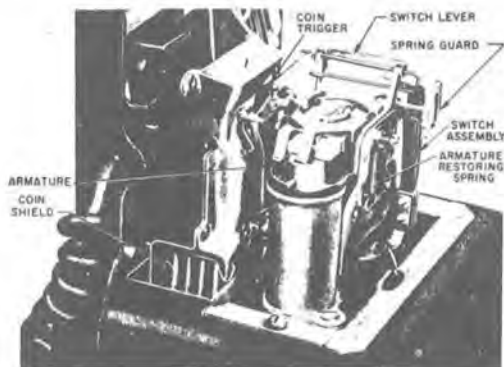

Fig. 14—Prepay Mechanism Unit, 2-Coil Coin Relay
- Manual or dial prepay 2-coil relay (Fig. 14)